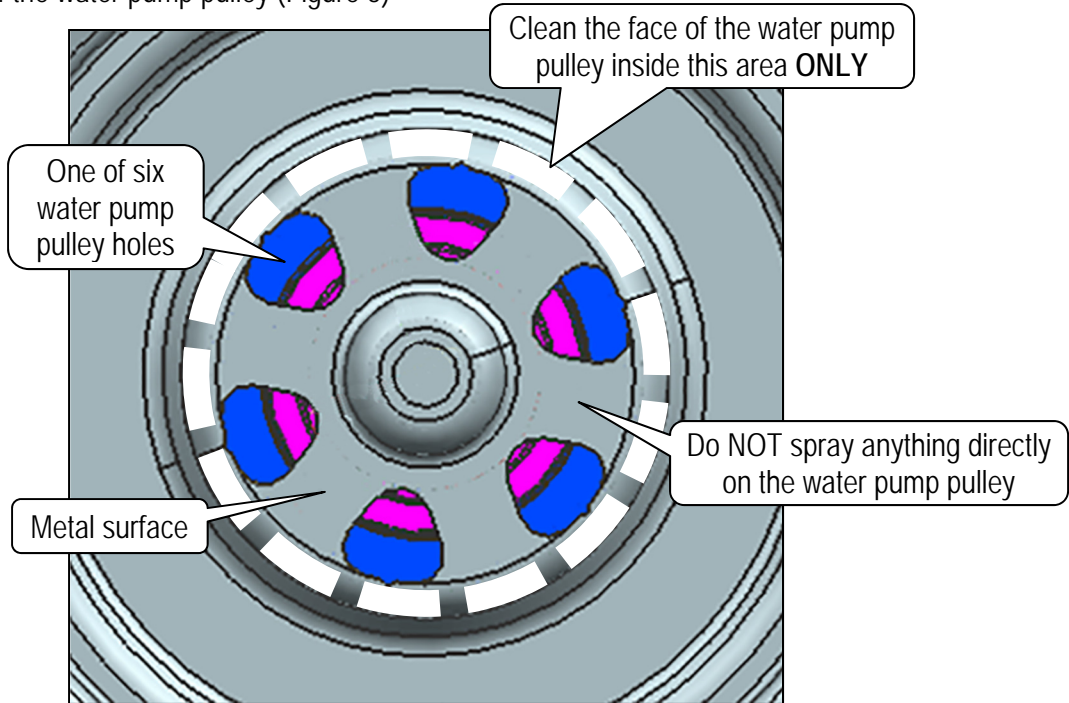

Figure 5
- The face of the water pump pulley (Figure 5)